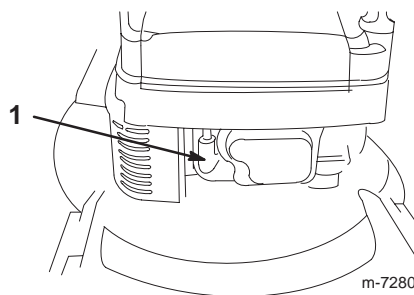

Figure 10
- Connect the wire to the spark plug (Fig. 10).